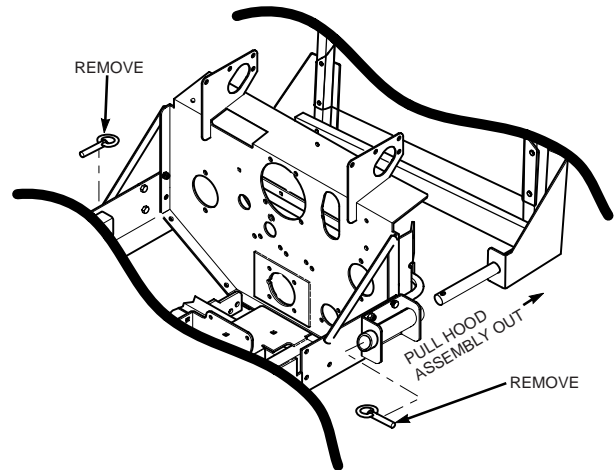

Figure 4-2
6. Remove the two (2) pins holding the hood assembly to the mounting brackets on the rear of the machine. See Figure 4-2.